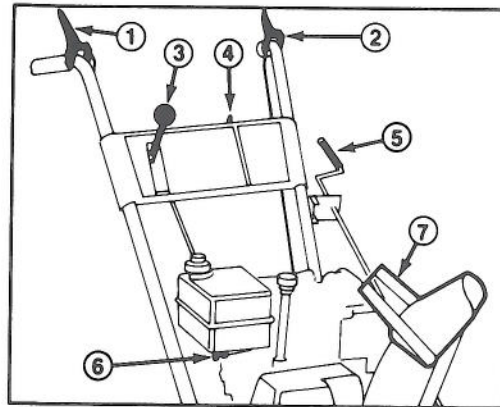

Figure 13
Auger Drive Control (Fig. 13) — Control has two positions: ENGAGE and DISENGAGE. To engage auger and impeller, compress lever against right handle grip. To disengage, release lever.
Traction Control (Fig. 13) — To achieve traction, lever must be compressed against left handle grip. To stop traction, release lever.
Speed Selector (Fig. 13) — The control has four positions: reverse, 1, 2 and 3. To change speeds, move gear shift to position desired. Lever will lock in notch at each speed selection. Use positions 1, 2, and 3 depending on snow conditions.
Ignition Switch (Fig. 13) — Switch has two positions: ON and OFF. Rotate key to ON before starting engine with the recoil starter. To stop engine, rotate key to OFF.
Throttle (Fig. 13) — Moving the throttle upward increases engine speed.
Chute Deflector Handle (Fig. 13) — Deflector handle is on top of discharge chute and it is used to control height of the snow stream.
3. Open fuel shut-off valve below fuel tank (Fig. 13).
5. Rotate ignition key to ON (Fig. 13).
1. Release traction and auger drive control (Fig. 13).